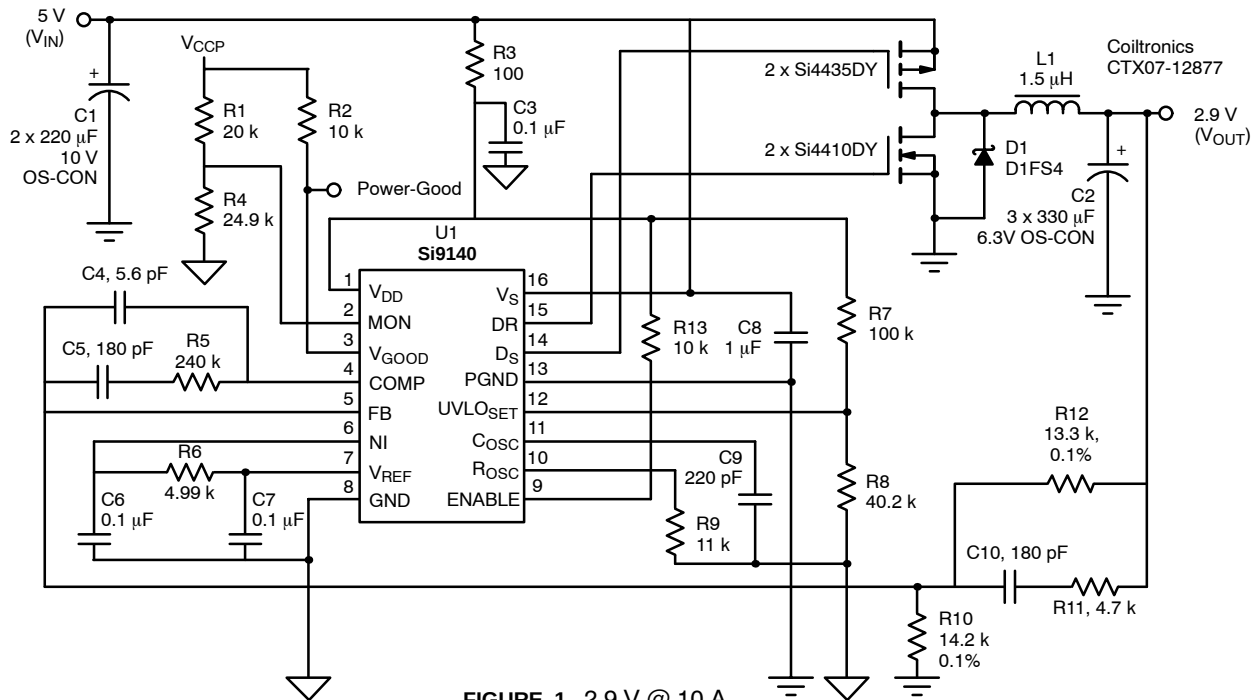
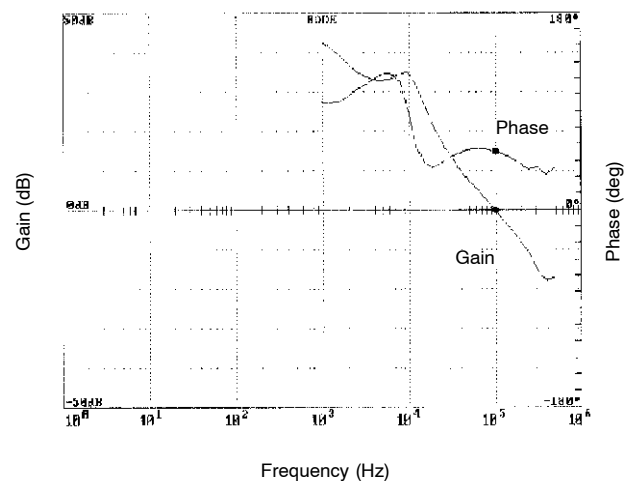

FIGURE 1. 2.9 V @ 10 A
FIGURE 6. 100-kHz BW Synchronous Buck Converter
Schematics of the Si9140 dc-to-dc conversion solutions for high-performance PC microprocessors are shown in Figure 1 and 2 respectively. These solutions are geared to meet the extremely demanding transient regulation and power requirements of these new microprocessors at minimal cost
The theoretical issues and analytical steps involved in compensating a feedback network are beyond the scope of this application note. However, to ease the converter design for today's high-performance microprocessors, typical component values for the feedback network are provided in Table 1 for various combinations of output capacitance. Figure 6 shows the Bode plot (frequency domain) of the 2.9-V converter shown schematically in Figure 1.
The synchronous gate drive outputs of Si9140 PWM controller drive the high-side p-channel switch MOSFET and the low-side n-channel synchronous rectifier MOSFET. The physical difference between the non-synchronous to synchronous rectification requires an additional MOSFET across the free-wheeling diode (D1). The inductor current will reach 0 A if the peak-to-peak inductor current equals twice the output current. In synchronous rectification mode, current is allowed to flow backwards from the inductor (L1) through the synchronous MOSFET (Q3) and to the output capacitor (C2) once the current reaches 0 A. Refer to schematic on Figure 1. In non-synchronous rectification, the diode (D1) prevents the current from flowing in the reverse direction. This minor difference has a drastic effect on the performance of a power supply. By allowing the current to flow in the reverse direction, it preserves the continuous inductor current mode, maintaining the wide converter bandwidth and improving efficiency. Also, maintaining the continuous current mode during light load to full load guarantees consistent transient response throughout a wide range of load conditions.
**CONVERTER REQUIREMENTS (FIGURES 1, 2, AND 3)**